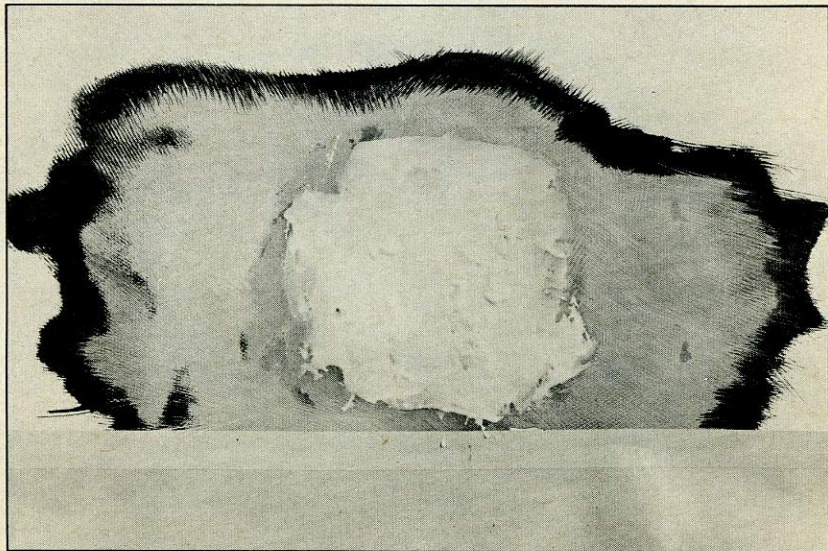

Figure 19
17. Remove plastic skin from all air holes and fill holes with a plastic mixture of resin, catalyst and sufficient thickener to give a putty-like body to the mixture (fig. 19).